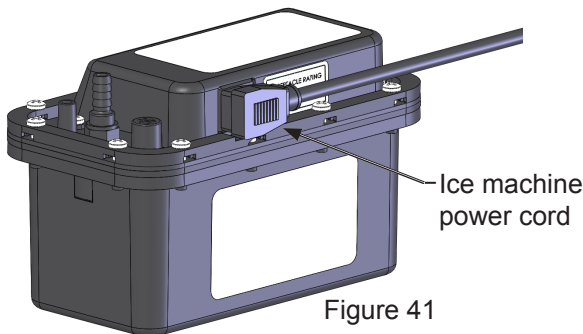

Figure 41
7. Disconnect the ice machine power cord from the drain pump (See Figure 41).